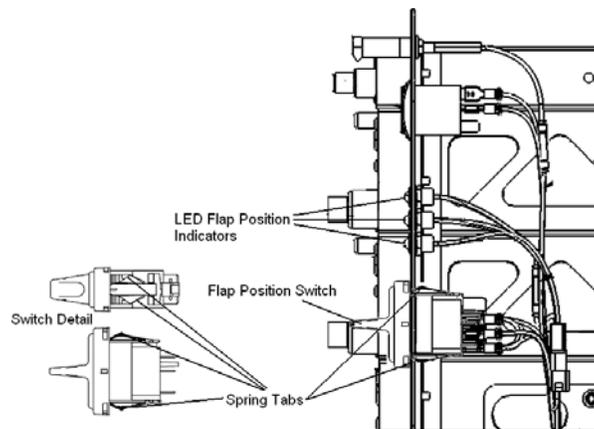

Figure 31-13 Flap Position Switch Showing the Spring Tabs
6. Press in on the spring tabs on the top and bottom of the switch. See Figure 31-13 for details of the spring tabs.